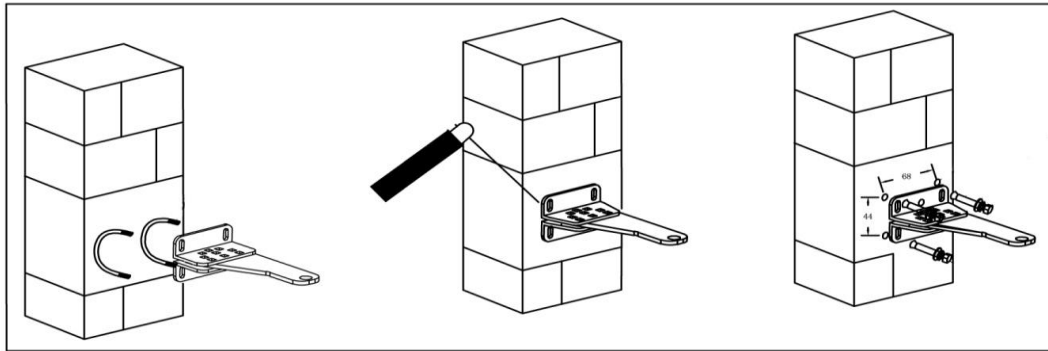

Figure 5
- 2. Construction Drill and Weld, Figure 5 middle:**
- 3. Precast U Bolts, Figure 5 left:**